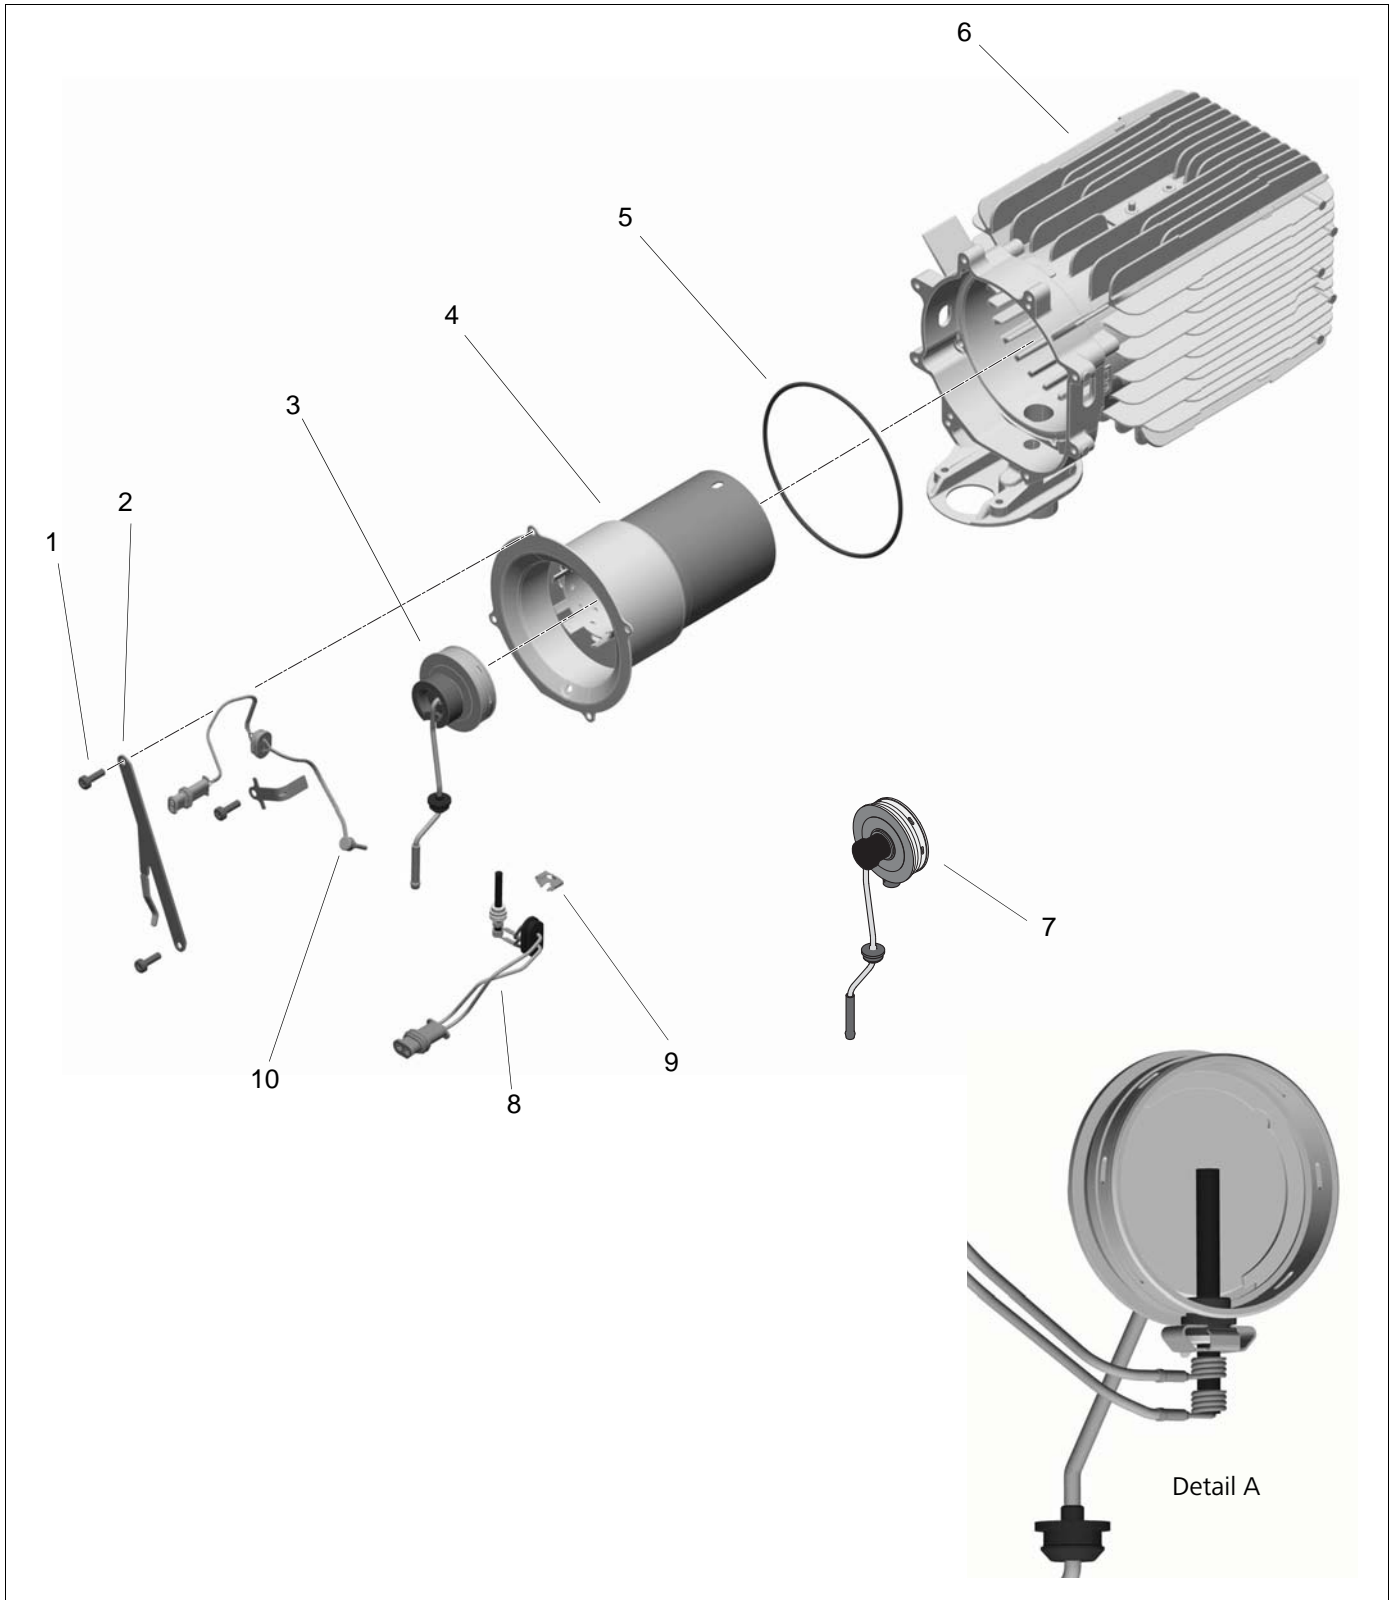

Fig. 907 Replacing evaporator mount, glow plug, exhaust temperature sensor, combustion pipe and heat exchanger
5. Remove 2 screws (1, Fig. 907) and take off spring clip (2). Discard spring clip (2).
6. Press out cable grommet on exhaust-temperature sensor connection cable toward inside out of heat exchanger (6).
7. Pull out exhaust temperature sensor (10) and discard.
1. Guide new exhaust temperature sensor (10, Fig. 907) into hole provided for this purpose. The cable must face toward the hole in the heat exchanger (6).
2. Fit new spring clip (2) with 2 screws (1).
6. Press grommet of exhaust temperature sensor (10) from outside inward into heat exchanger (6) and remove exhaust temperature sensor (10).
1. Guide glow plug (8, Fig. 907) into evaporator mount (3 or 7) and secure with retaining clip (9) as shown in Fig. 907, Detail A.
1. Fit new round sealing ring (5, Fig. 907) into heat exchanger (6).
2. Secure combustion chamber (4) with 2 screws on opposite sides (1).
3. Tighten screws (1) to 4 ± 0.4 Nm.